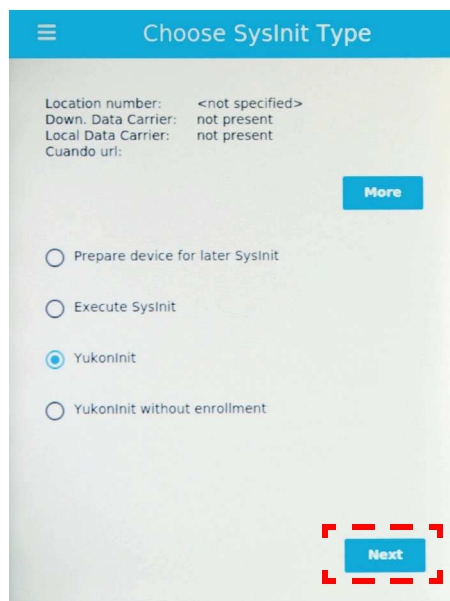

Figure 4-9 Validator Initialization (Workshop) 4
Step 11 Press the <Next> button to download certificate (see **Figure 4-9**).